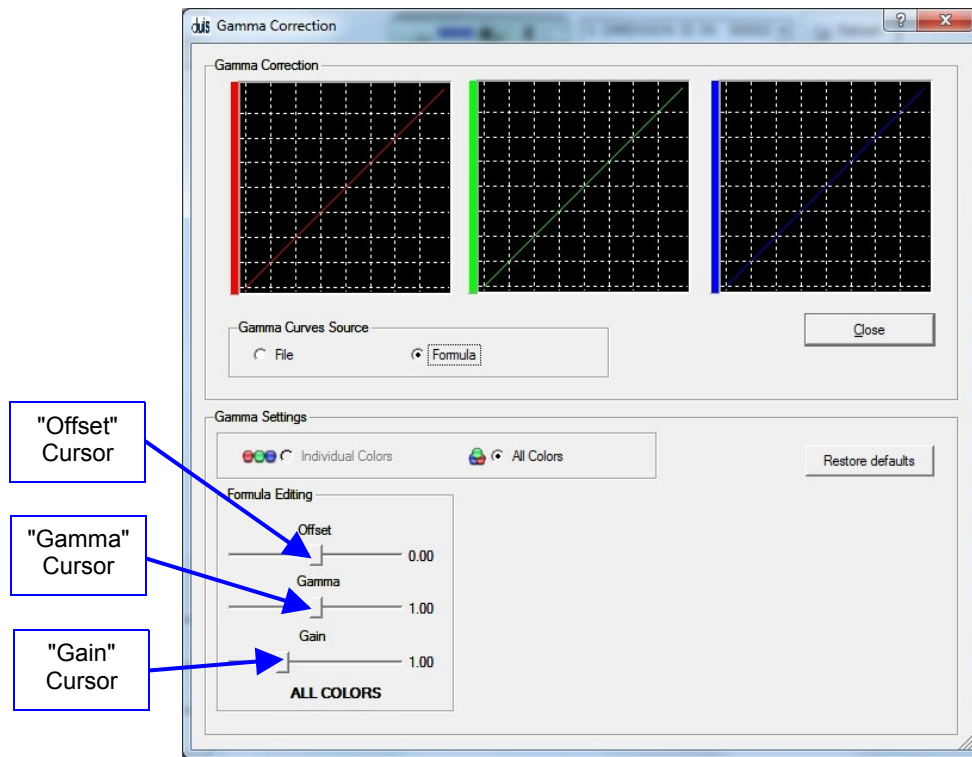

Figure 14: Doremi Universal Interface GUI – Gamma Correction and Formula
- Select the “Formula” check-box (Figure 14).
- Edit the formula by using the “Offset,” “Gamma” and “Gain” cursors available in the “Formula” editing area (Figure 14).
- Select the “File” check-box (Figure 14).